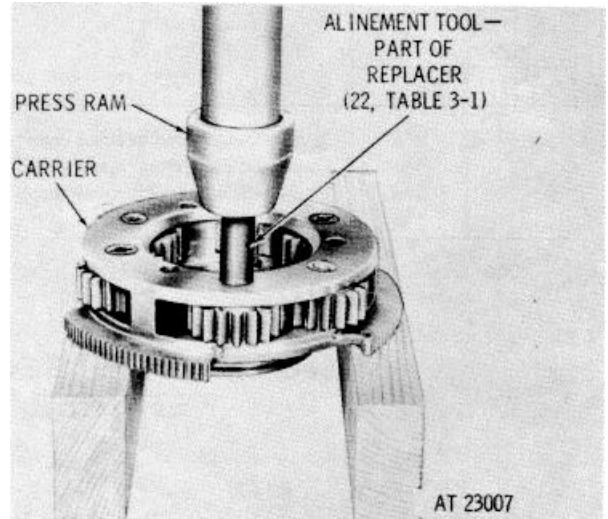

Figure 7-27 Pressing spindle from reverse-range planetary carrier.
- c. Remove hub (43, FO-9) and retaining ring (44) from the hub.
- d. Remove retaining rings (33 and 40) from carrier assembly (36).
- e. Remove bearing assembly (34) from carrier assembly (36).
- f. Remove six pins (39.8) from carrier (38), driving them toward the inside of the carrier.
- g. Do not remove pins (37) from carrier (38) unless replacement is necessary.
- h. Using an alinement tool of replacer assembly (22, table 3-1), remove six spindles (39.1, FO-9), six pinions (39.4) 12 thrust washers (39.2 and 39.7), 12 spacers (39.3 and 39.6) and 150 pinion rollers (39.5) from carrier (38) Refer to figure 7-27.